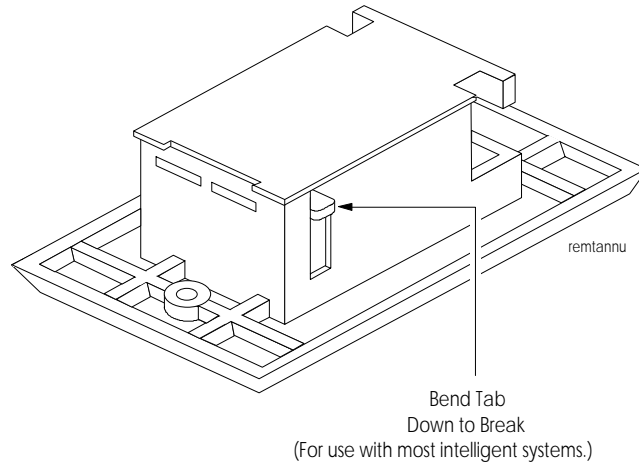

Figure 3: Break Off Tab
3. The tab on the back of the RA400Z must be broken off for use with most Johnson Controls intelligent smoke and thermal detectors (Figure 3).